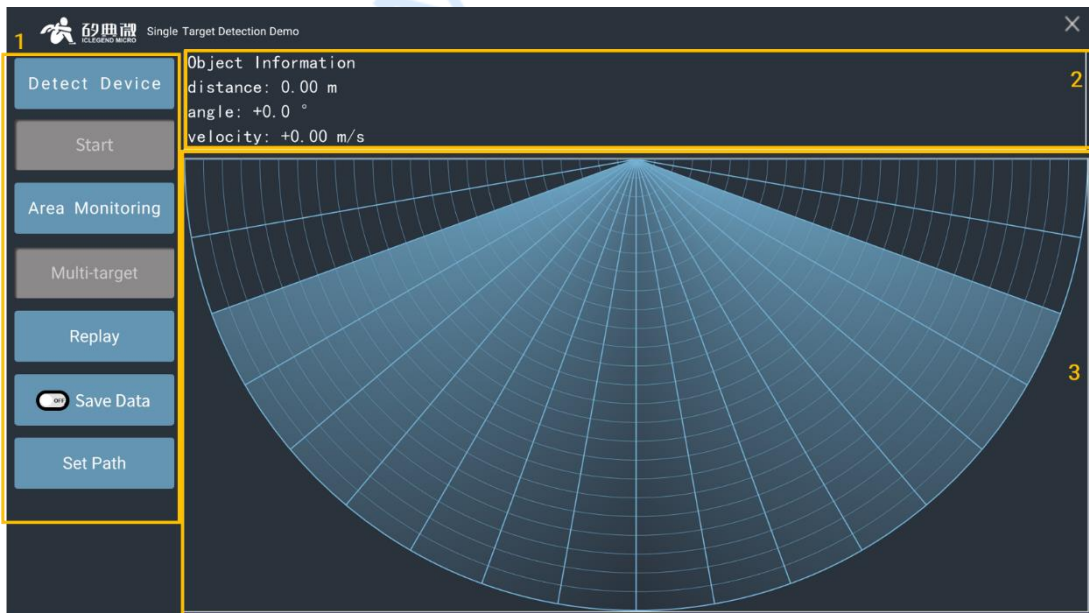

Figure 4-3 ICL_MTT GUI
Step 3: Double click the **ICL_MTT.exe** in the software directory, and the graphic user interface (GUI) will appear as shown in Figure 4-3.